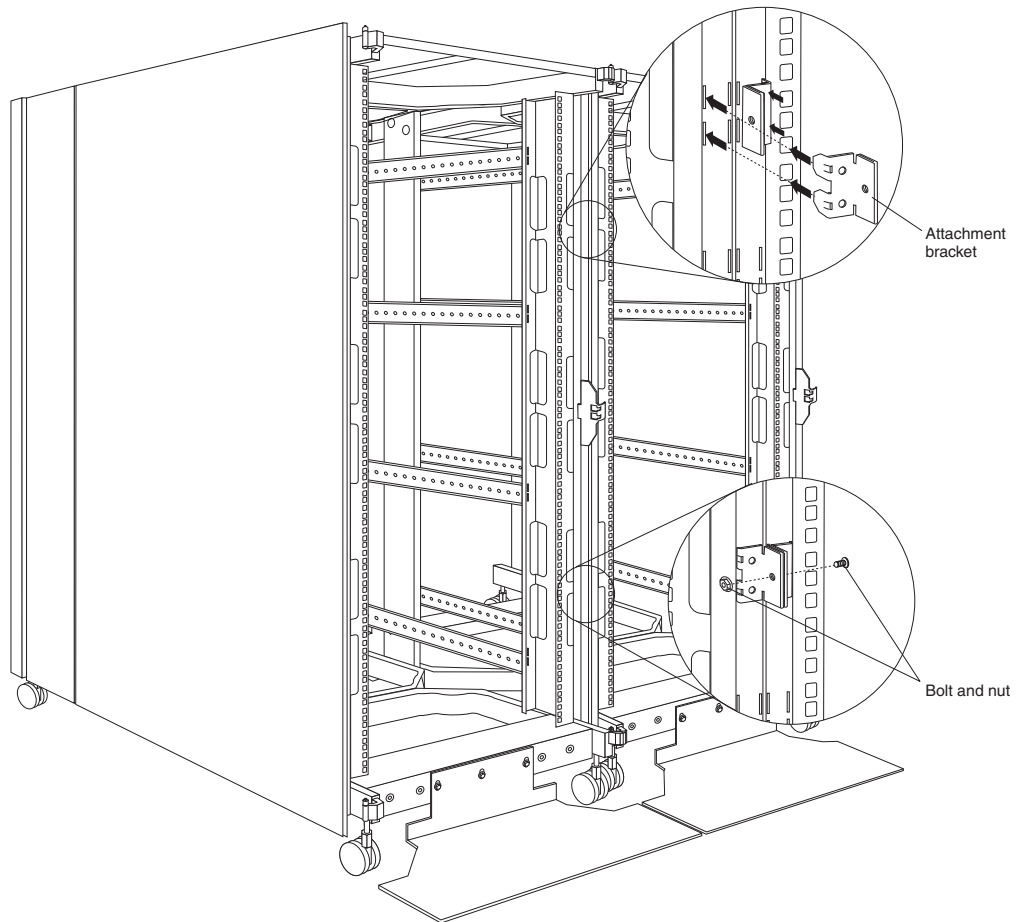

Figure 17. Attaching two adjacent NetBAY42 Rack cabinets to each other to form a suite
- a. Insert an attachment bracket into the slots on the front of one of the rack cabinets as shown in Figure 17; then, insert an attachment bracket into the slots on the front of the other rack cabinet so that the holes in each bracket are aligned.